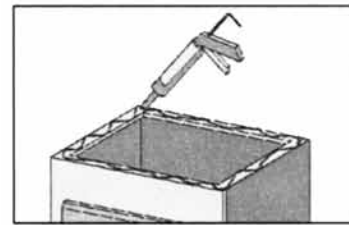

Figure 1
4. Wipe off the top of the vanity cabinet with a damp cloth to remove any dirt. Apply a generous (1/2") bead of silicone around the top edges of the vanity cabinet. See *Figure 1*.